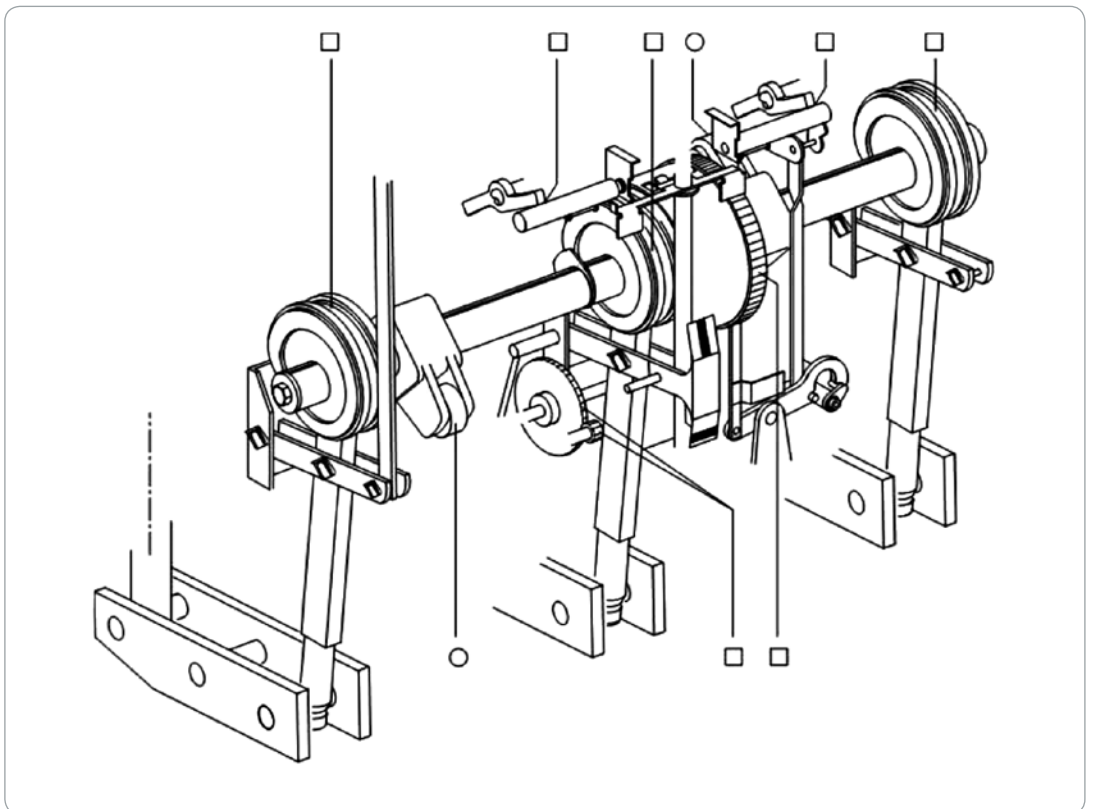

Fig. 8.1
1.Clean the points of lubrication(Fig.8.1 to 8.3)using a lint-free cotton cloth;in case of serious contamination,use a cleaning agent(see section 8.3).
- Points of lubrication on the drive(Fig.8.1):